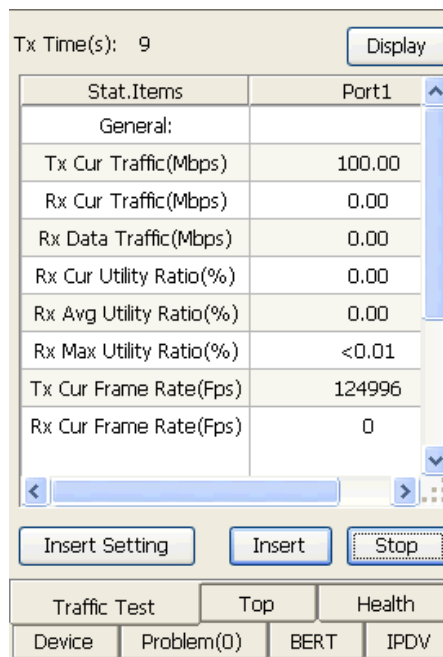

Figure 6.2.7 Traffic Test
Step2: Click “Start” to send traffic packets, as is shown in figure 6.2.7.